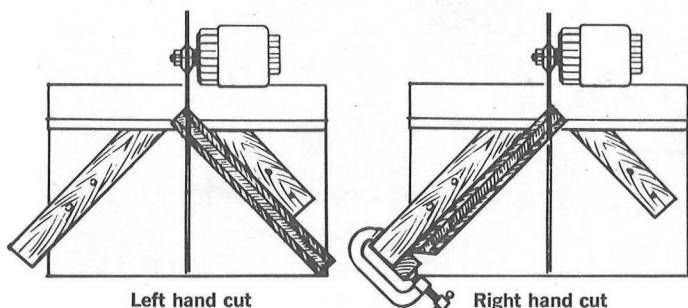

Figure 106
Nail down (A) and (B) so they are 90° apart and 45° to the saw cut. Be sure distance (C) is as wide as the moulding you will cut. (See Figure 106.)